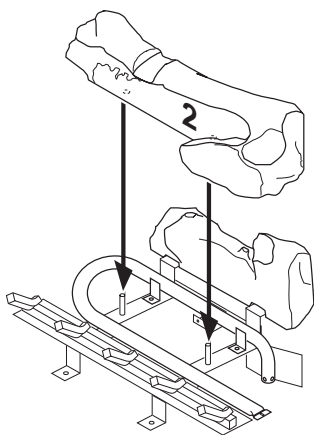

Figure 40 - Installing Log No. 2
3. Rest log #2 (large front log) on the pins on the front part of grate (see Figure 40).